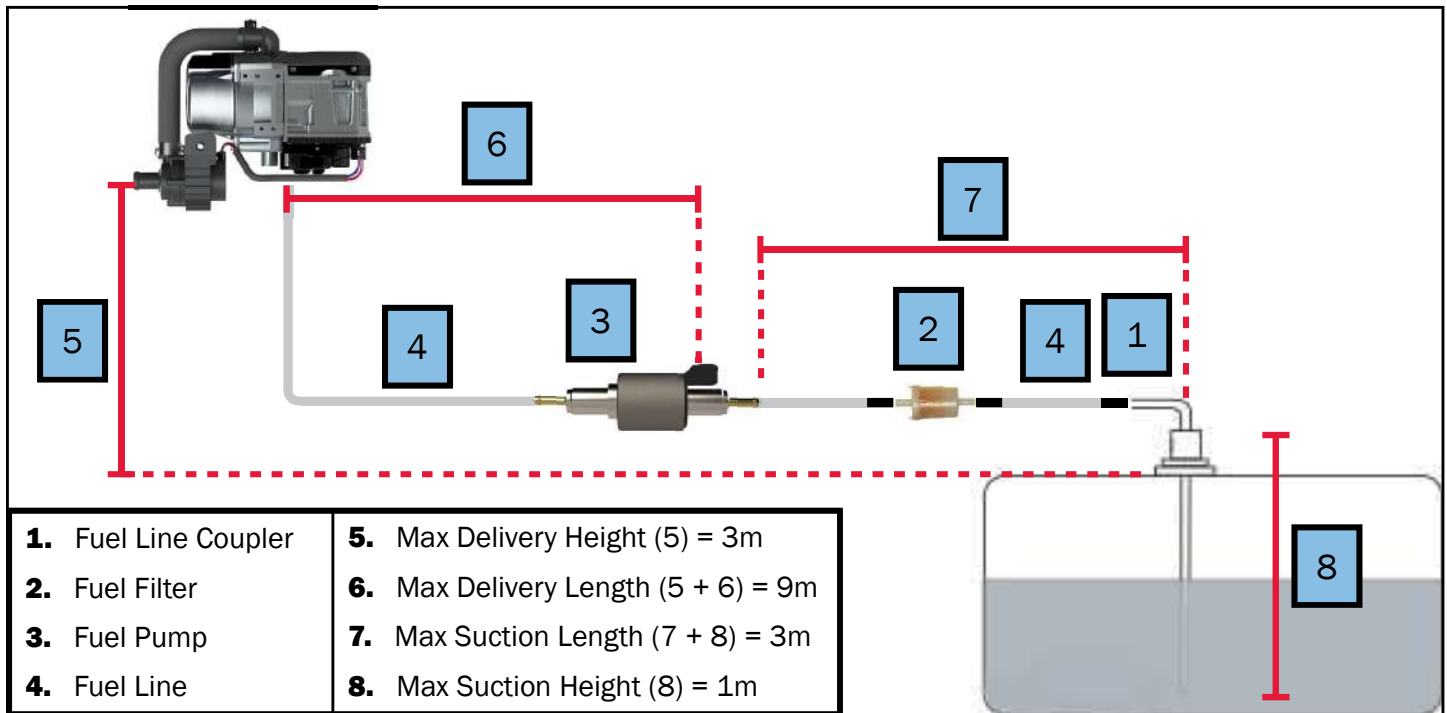

Figure 82
- The fuel line should not be descending from the fuel pump to the burner - see Figure 82.